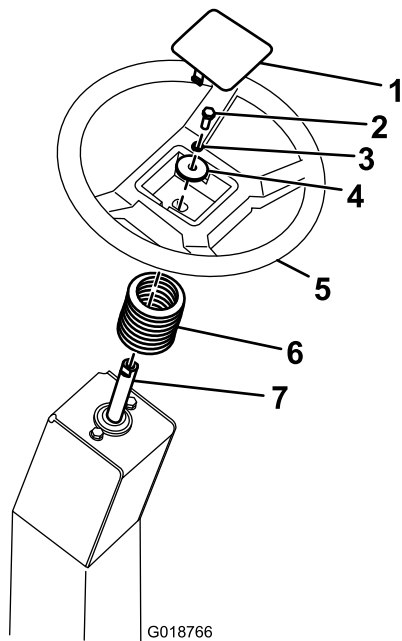

Figure 5
2. Slide the steering shaft cover over the shaft (Figure 5).